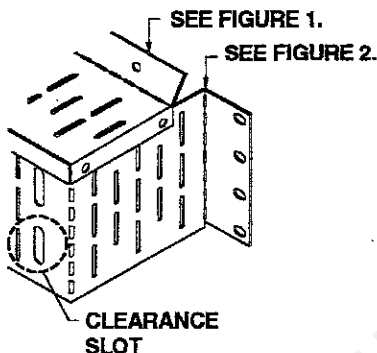

FIGURE 1
1. Check all parts included with the parts list and make sure all parts needed are included. If anything is missing, or damaged, contact our parts department at (423) 837-2100. NOTE: The Blower comes pre-wired for your convenience.
2. Remove the six(6) screws holding the blower box top on. Bend the tab, as shown in figure 1, in accordance to which unit you purchased.